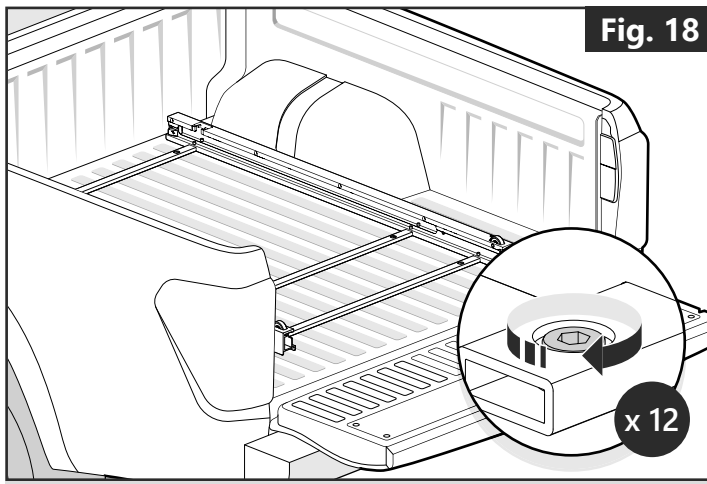

Fig. 18
- To perform proper maintenance on the Mountain Top Slide, it is necessary to detach the deck from the base frame. Refer to section (4) for proper detachment of the deck.
- If necessary, re-tighten all bolts connecting the base frame to the bed of the truck to 21 Nm. (**Fig. 18**)